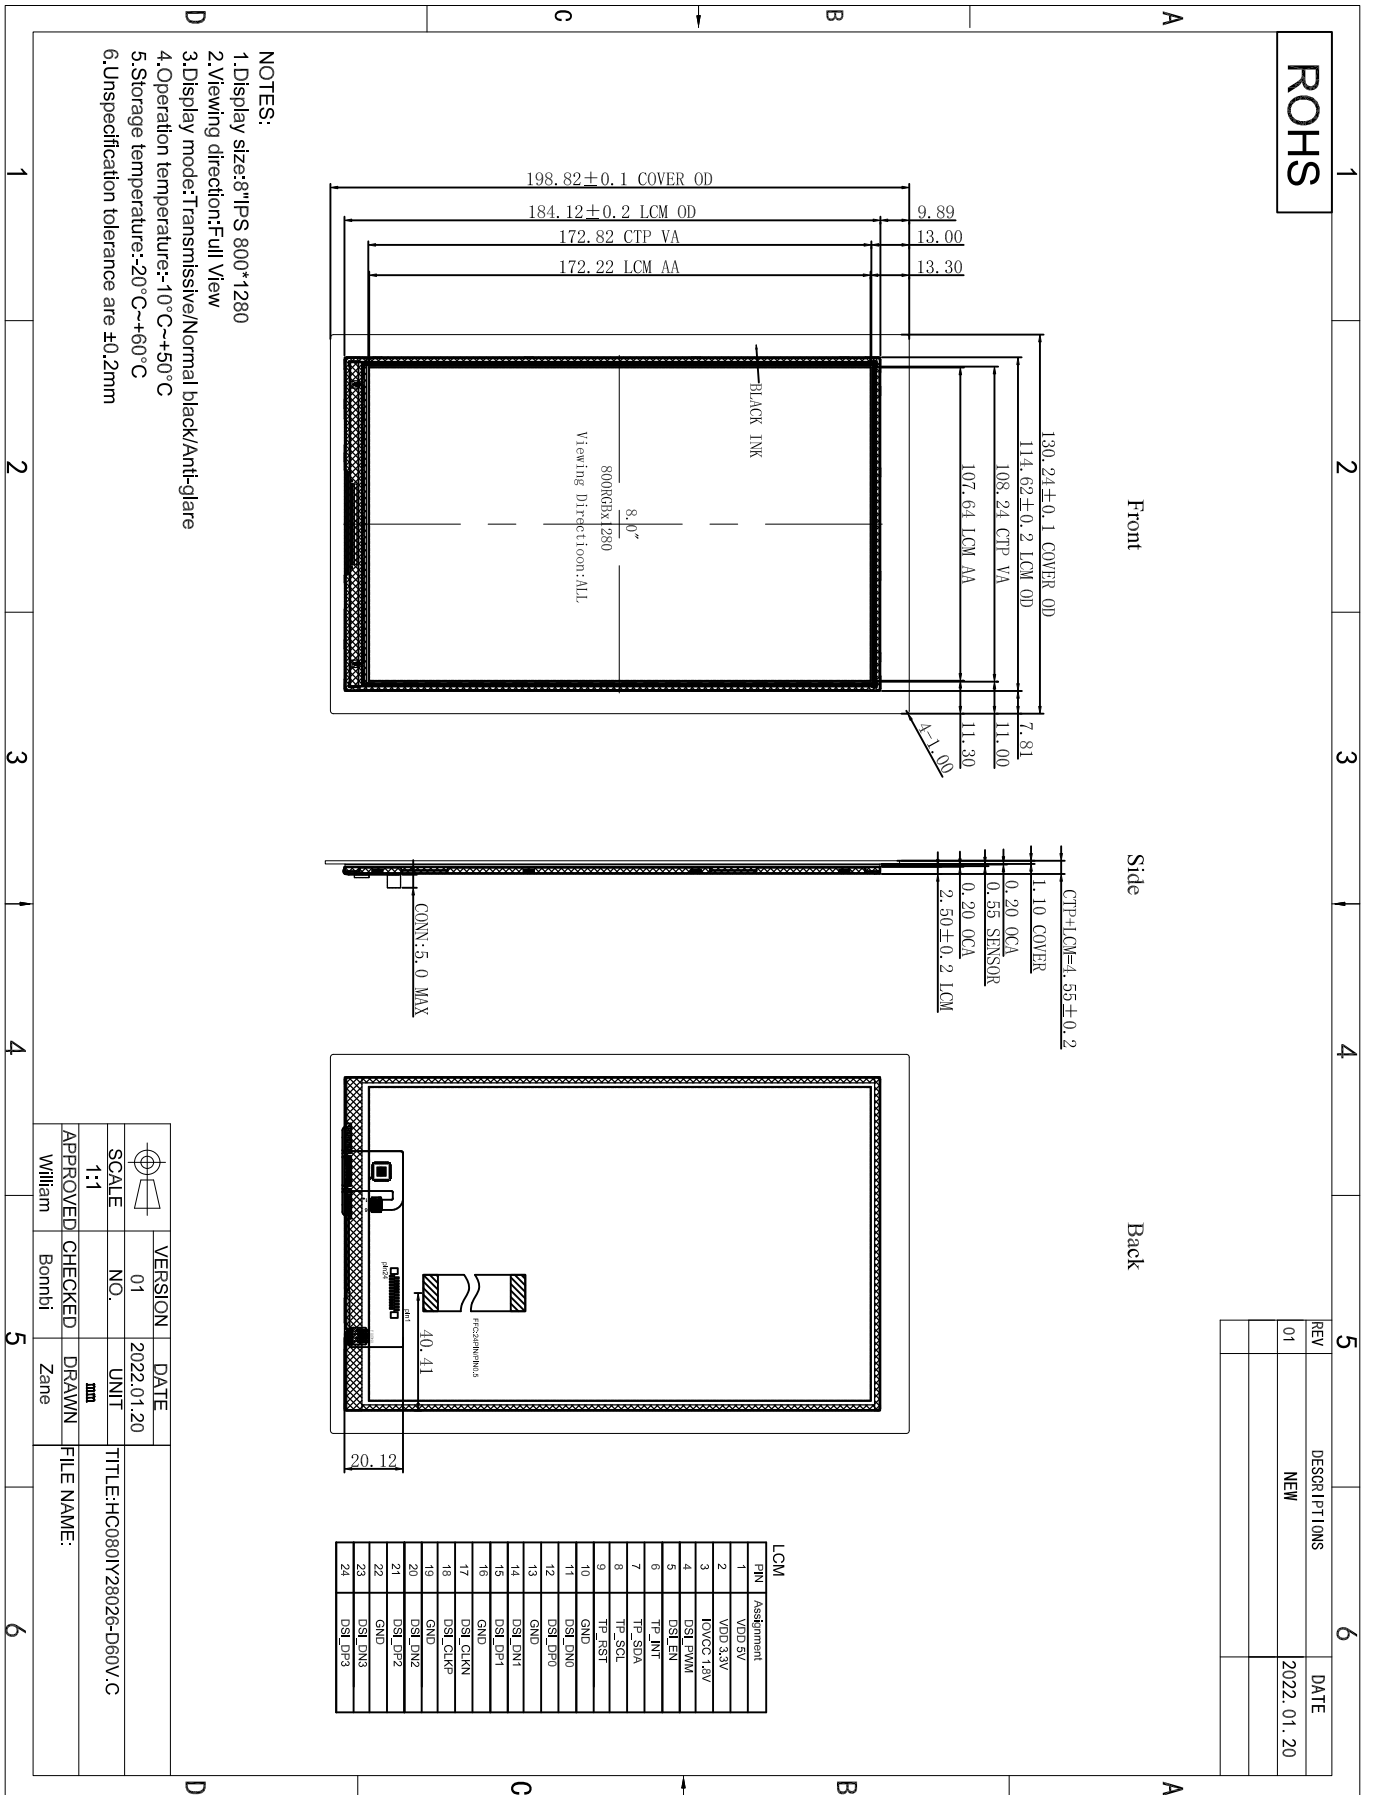

Figure 1. Dimensional outline
1. Viewing angle is the angle at which the contrast ratio is greater than 10. The viewing angles are determined for the horizontal or 3, 9 o'clock direction and the vertical or 6, 12 o'clock direction with respect to the optical axis which is normal to the LCD surface (see FIGURE 1).
2. Contrast measurements shall be made at viewing angle of  $\Theta = 0$  and at the center of the LCD surface. Luminance shall be measured with all pixels in the view field set first to white, then to the dark (black) state . (see FIGURE 1) Luminance Contrast Ratio (CR) is defined mathematically.